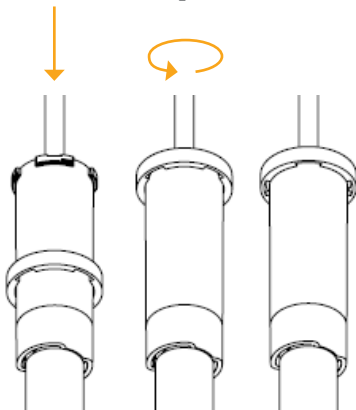

Fig. 7: Example of actuator installation in a round height-adjustable column
3. Mount the drive in the preassembled height-adjustable column (see Figure 7: Example of actuator installation in a round height-adjustable column by rotating it 1/8 turn clockwise when seen from top).